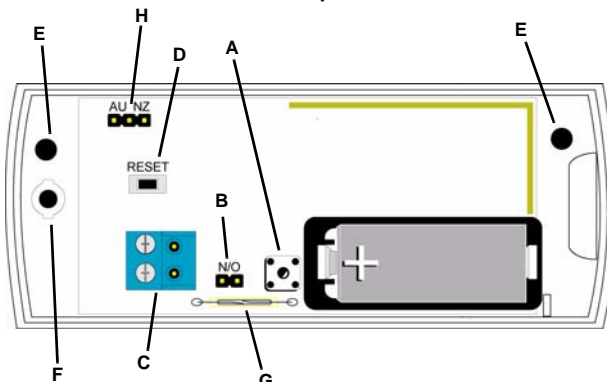

Figure 2 EN1215WEOL internal components
13. When prompted by the receiver to reset transmitter, press the **Reset** button (Figure 2).
16. Choose a mounting location which will allow the magnet to be located parallel to the transmitter such that there is no more than a 5/8" gap between it and the internal contact magnetic reed switch (Figure 2).
18. Mount the transmitter to the wall using the the wall-mount screw holes (Figure 2), ensuring the housing is flush against the wall and the wall tamper switch is firmly depressed.
20. Secure the housing through the enclosed housing screw hole (Figure 2). Accessing this screw on an active transmitter requires opening the housing and removing the battery, causing a tamper condition.